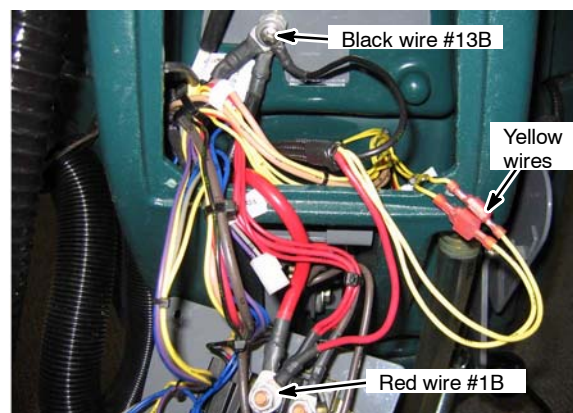

Fig. 4
4. Connect the kit wire harness terminals as shown and replace control console panel (Fig. 4).